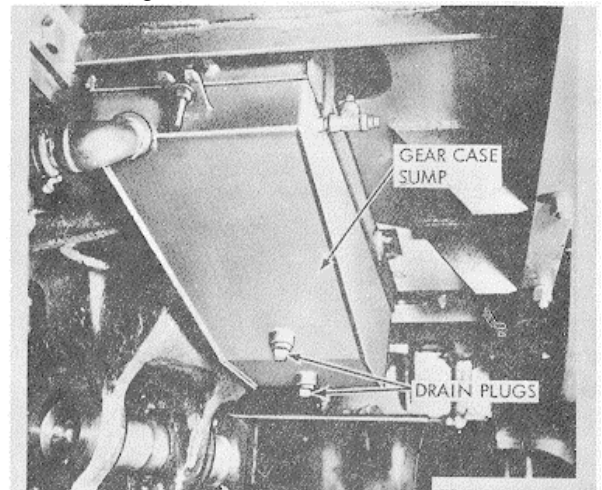

Figure 4-3. Gear case sump.
(4) Remove two plugs from oil sump of main gear case and drain oil (fig. 4-3).
(3) Drain oil from sump of main gear case through two drain plugs (fig. 4-3).
(4) Loosen bolt at split hub of swing jaw clutch shifter and at the hand lever and pull hand lever shaft out taking care not to lose key.
(5) Remove propel jaw clutch shifter shoe pins and shoes.
(6) Take out clutch shifter.
(7) Remove vertical shaft cover and gasket by taking out four capscrews.
(8) Prepare blocking and extended jack under vertical swing shaft to provide for lowering it safely (pinion weight 50 pounds and shaft 80 pounds).